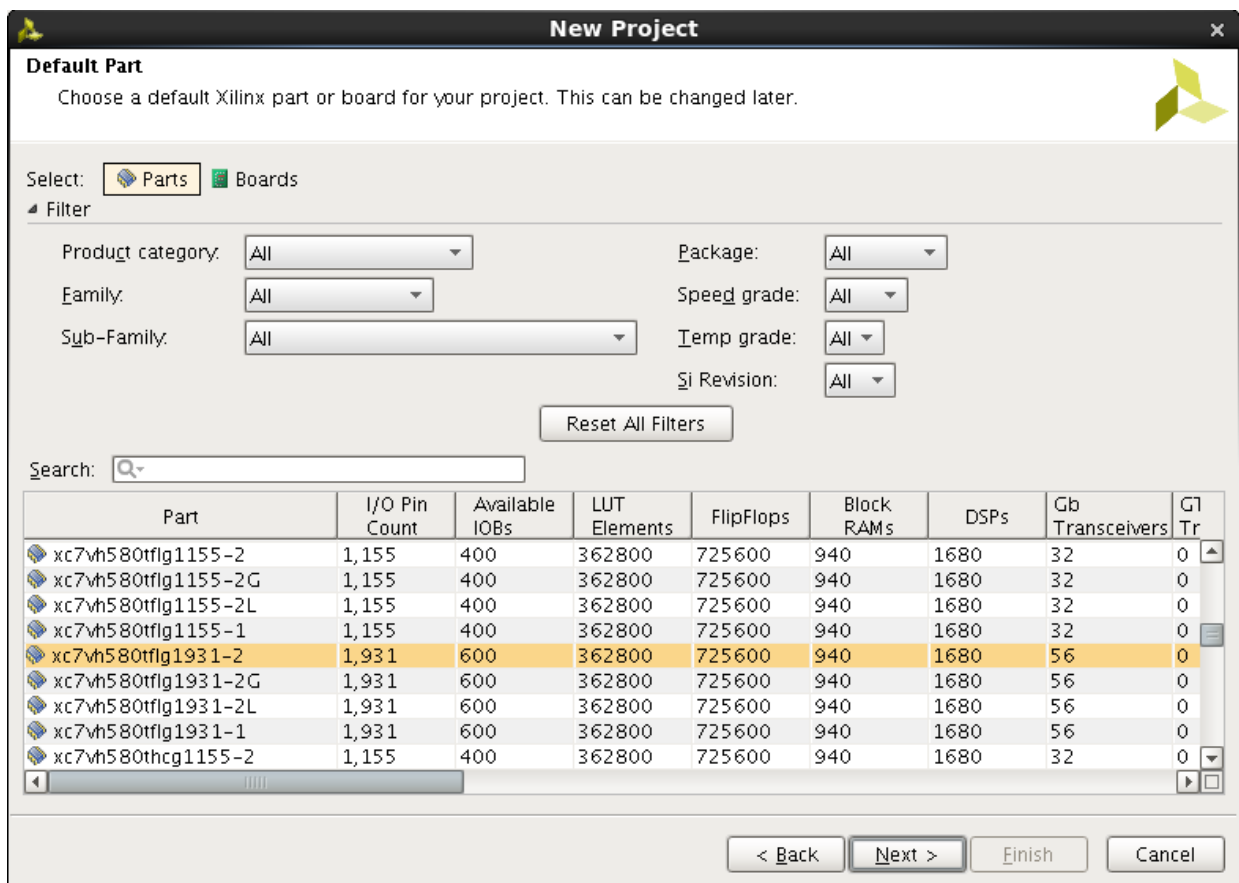
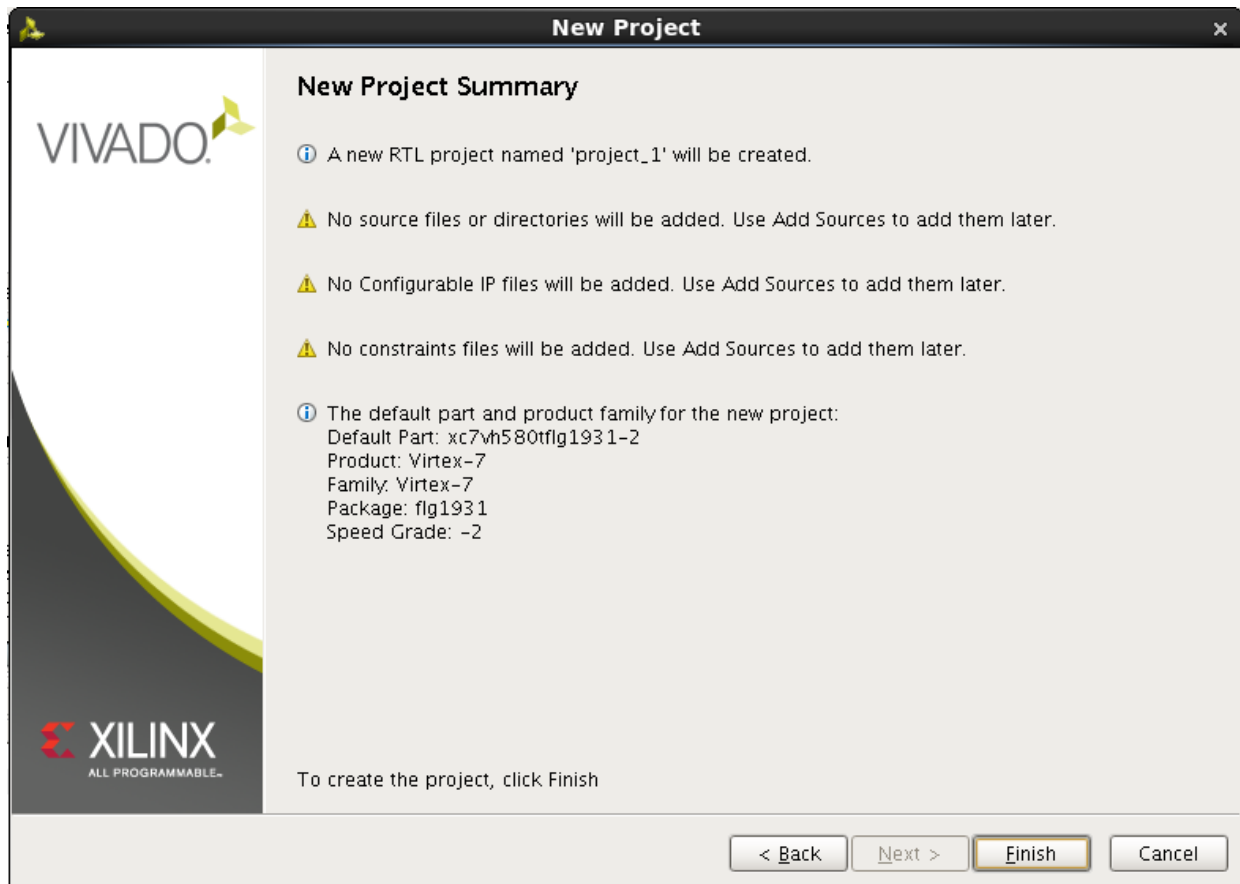

Figure 4-3: Target Architecture Setting
Figure 4-4: Target Architecture Setting (Vivado Design Suite)
4. Select an appropriate package from the Package list. This example uses the XC7V1500T device (see Figure 4-3 or Figure 4-4). For an example design using GTZ transceivers, select the XC7VH580T device.